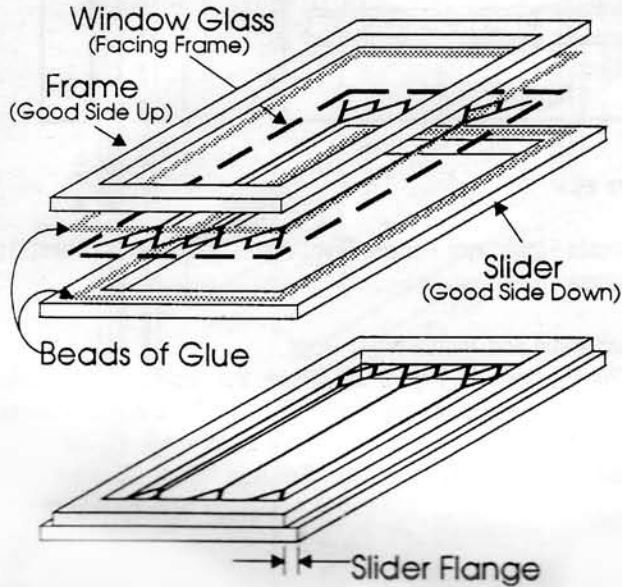

Figure 24
2. Assemble Bay Working Window Frame/Slider Assemblies as in Figure 24.